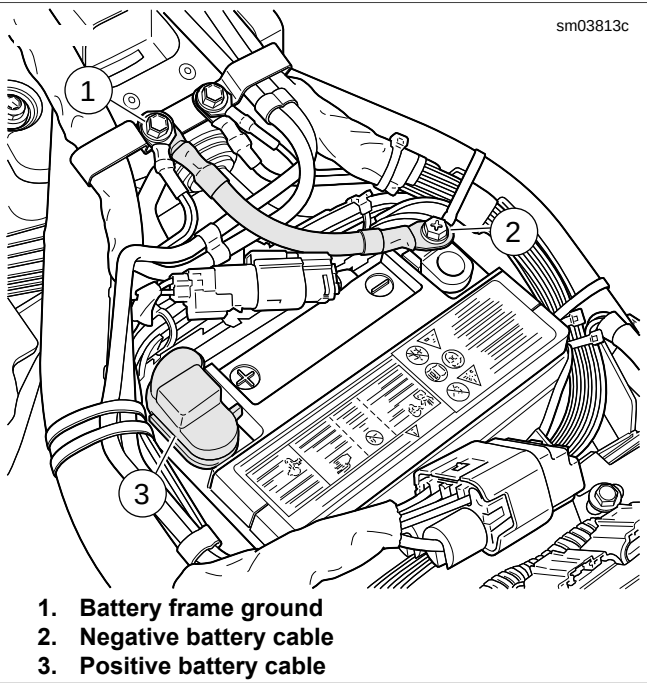

Figure 1-49. Battery Connections
2. See Figure 1-49. Remove battery negative cable (black) from battery negative (-) terminal.